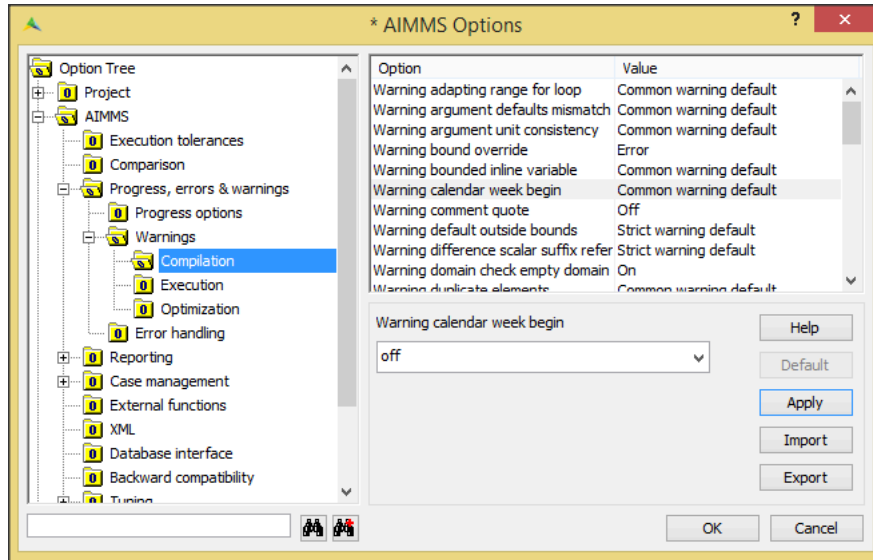

Figure 6.22: The AIMMS Options dialog box
- ▶ select the **AIMMS - Progress, errors & warnings - Warnings - Compilation** folder in the option tree (see Figure 6.22),